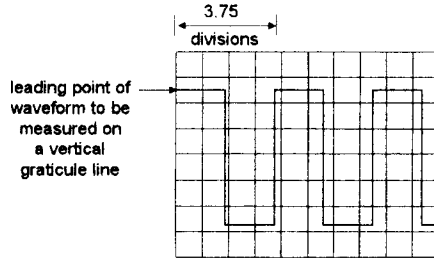

Fig. 7. Square wave period measurement
3. Move the H. POSITION control until the front part of the waveform section to be measured is on a vertical graticule line.(see Fig. 7)
6. Calculate the period by multiplying the number of horizontal divisions of the measured period times the setting of the TIME/DIV Selector. For example, the period of the pulse in Fig. 7 is 3.75 divisions. If the TIME/DIV Selector is in the 1ms/div then the period is  $3.75 \text{ divisions} \times 1\text{ms/div} = 3.75\text{ms}$ .